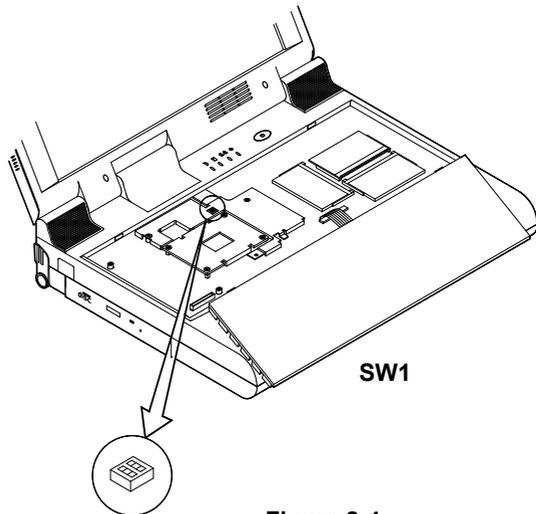

Figure 2-4
3. Carefully lift the keyboard assembly out to expose the mainboard. Locate the DIP Switch SW1 to set the configuration (Figure 2-4).